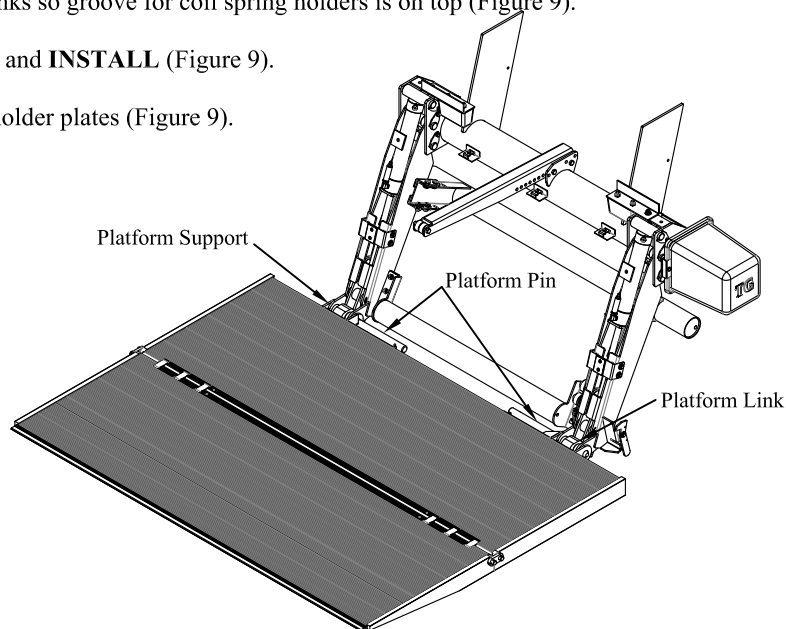

Figure 7: Installing Platform.
2. **POSITION** platform supports in line with platform links (Figure 7).
3. **INSERT** new platform pins through platform supports and platform links from center outward (Figure 7).
4. **ALIGN** groove in platform pin with hole in platform link (Figure 7).